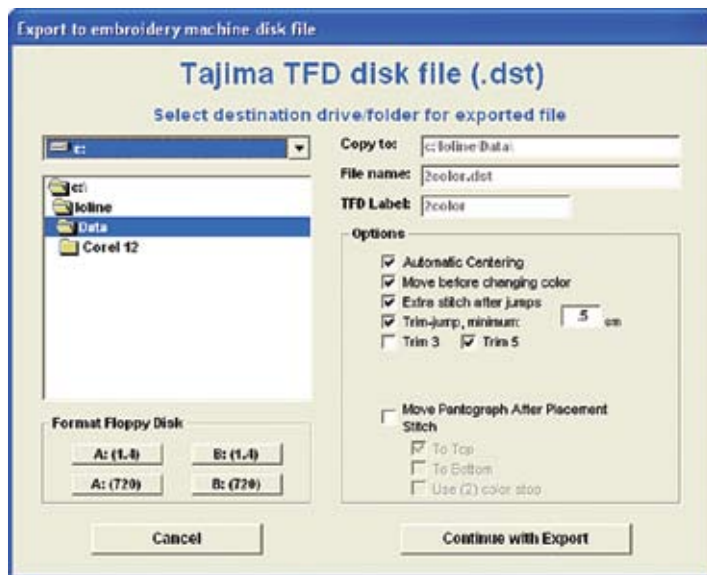

Figure 13: Example of saving a file in Tajima .TFD format.
1. Choose a format. The **Export Window** will appear (See Figure 13).